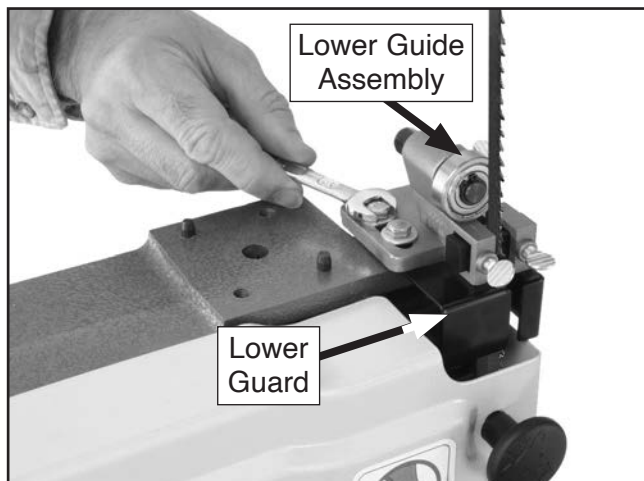

Figure 17. Installing lower blade guide assembly.
2. Align and place the lower guide assembly onto the lower guard, and secure with (2) M6-1 x 20 hex bolts and 6mm flat washers, as shown in **Figure 17**.